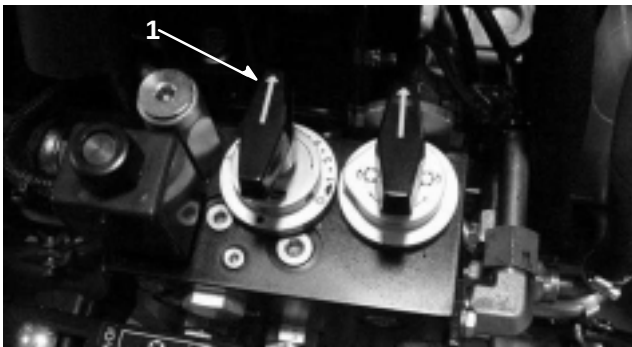

Figure 37
- 2. Turn the reel speed control knob (Fig. 37) to the number setting determined in step 1.